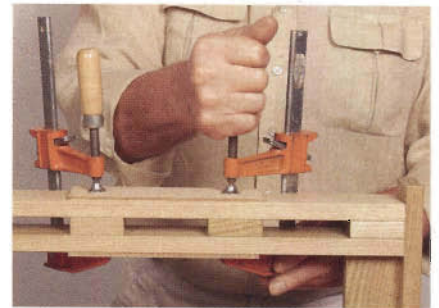

Figure 6. Glue and clamp the outer leg to the leg blocks.
Step 8: Attach the outer legs as shown in *Figure 6*. Glue the blocks and the legs and clamp in place much the same as in Step 6. Clamp the end blocks with a bar clamp and put two screws through the cap rail into the end grain of the outer leg. (See *Figure 7*.)